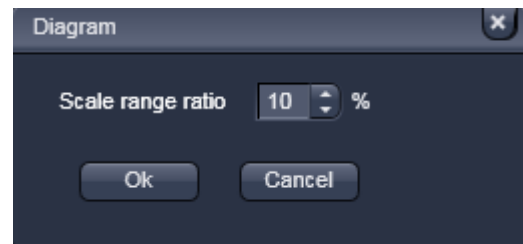

Fig. 360 Scaling menu
- Select the line **Scaling** to open the **Diagram** scaling window (Fig. 360). Enter the required percentage value (from 1 to 100) for the scaling and click on **OK** to rescale, **Cancel** to keep the old value. The scaling of the G(t) axis will be adjusted.